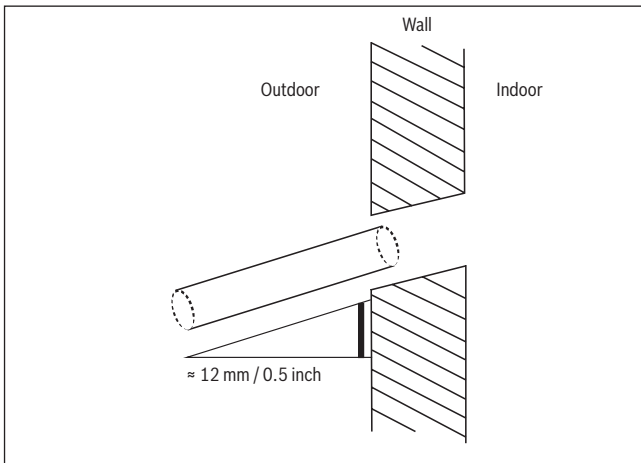

Fig. 23.
3. Using a 65 mm core drill, drill a hole in the wall. Ensure that the hole is drilled at a slightly downward angle, so that the outdoor end of the hole is lower than the indoor end by about 12 mm. This will ensure proper water drainage (See Fig. 23). Place the protective wall cuff in the hole. This protects the edges of the hole and will help seal it when you finish the installation process.